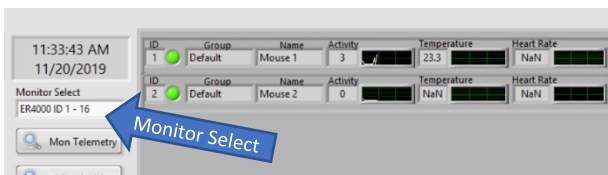

Fig 6-8
- You should see a listing of Telemetry data channels (Fig 6-8)